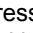

Figure 22: Instructions for Latching Solenoid Valve (on battery cover)
- Simultaneously press **SET** and  (**small flame**) buttons to switch the burner OFF. Printed instructions are on the battery cover (see figure 22).